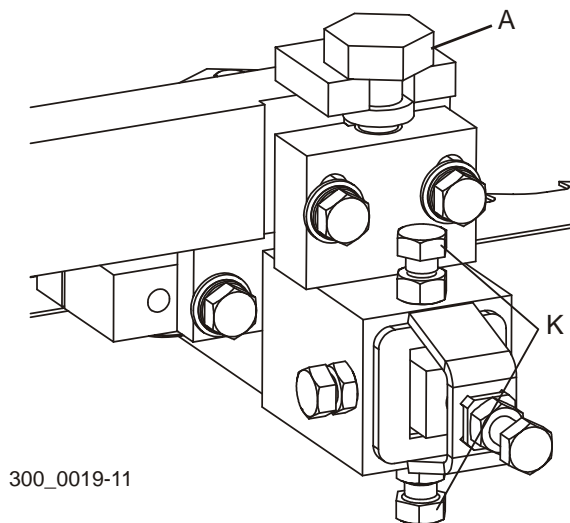

FIG. 5-43
See Figure 5-43. Optional All-Ceramic Guides: Loosen the jam nuts on bolts (K). Adjust the bolts up to tilt the blade down. Adjust the bolts down to tilt the blade up. Retighten the jam nuts and recheck the tilt of the blade guide assembly with the blade guide alignment tool.